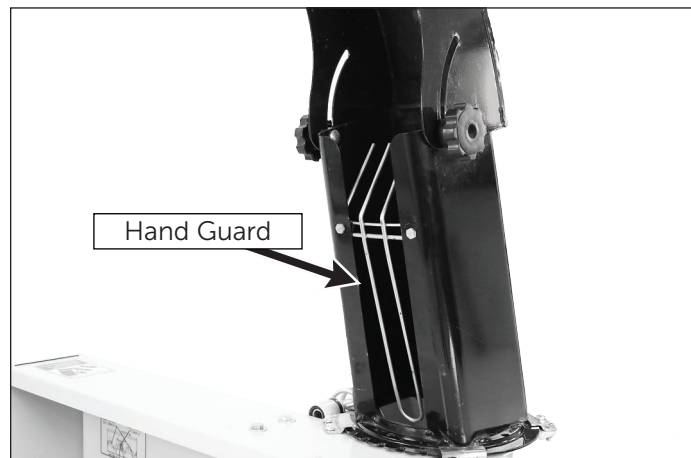

**Figure 1.3: Install Chute and Retaining Plates**
5. Install the chute over the plastic insert and secure with four retaining plates (as shown in Figure 1.3), using two (2) 1/4 x 1/2 in. bolts, lock washers, and nuts in each of the three (3) standard retaining plates, and two (2) 1/4 x 3/4 in. bolts, lock washers and nuts in the rear right retaining plate which also secures the rear shaft support. Tighten all bolts to 10 ft-lb (13.6 N•m).